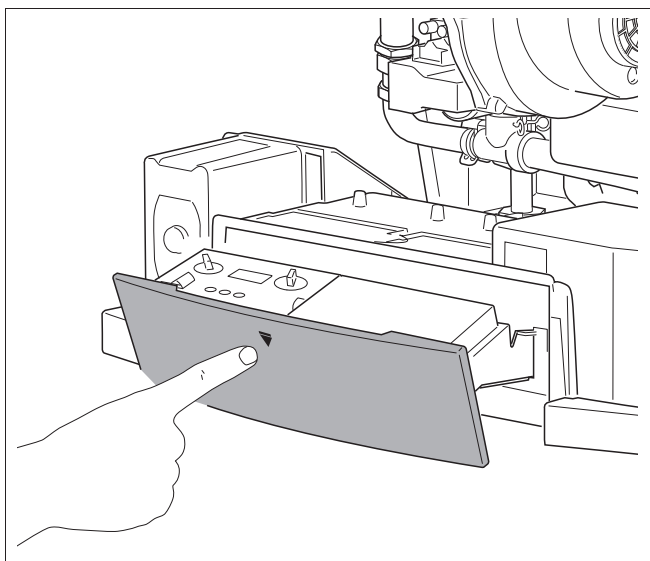

Fig. 40 Closing the control panel
- Push against the drawer (see fig. 40) to close the control panel.